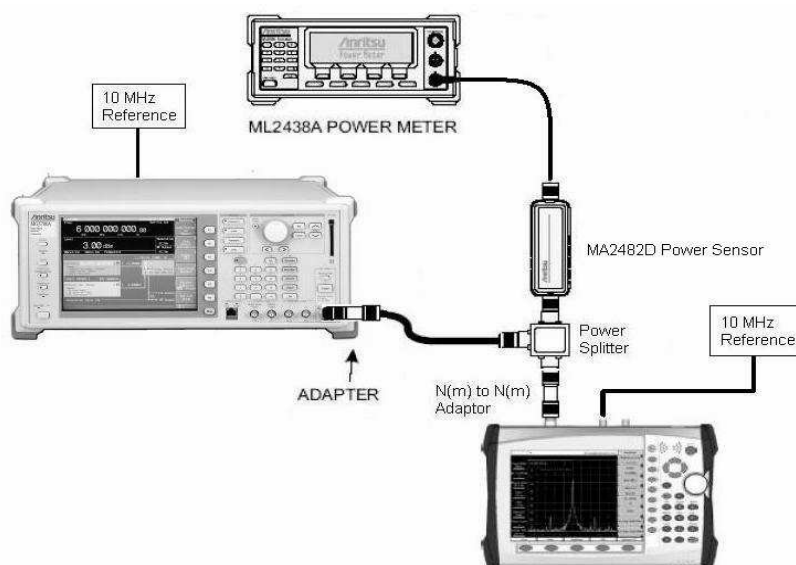

Figure 4. GSM/GPRS/EDGE Signal Analyzer Option Verification Setup
1. Connect the equipment as shown in Figure 4.